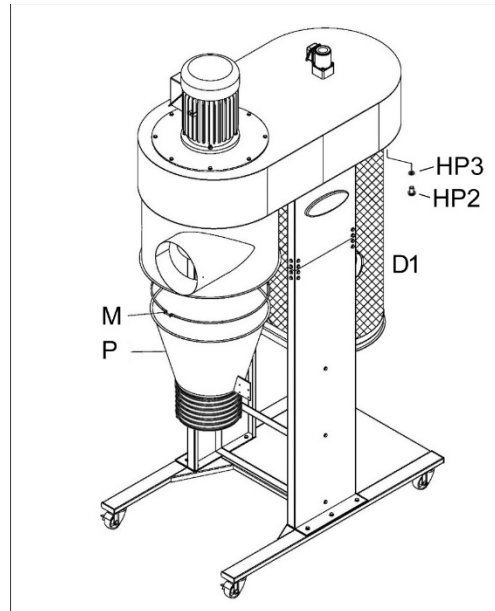

Figure 5-8
15. Assemble cone (P) to housing with clamp (M). See Figure 5-8. Position cone so that flanges face forward and are parallel to stand. Tighten screw on clamp.